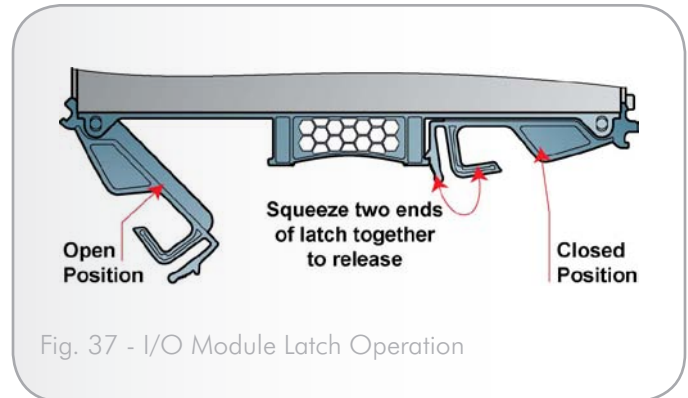
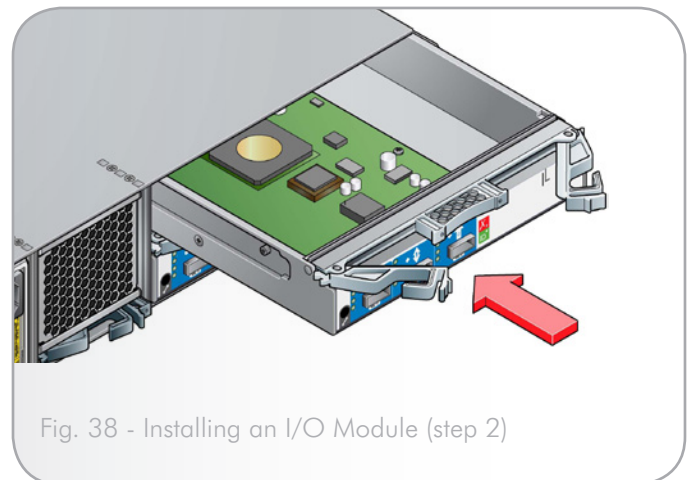

Fig. 37 - I/O Module Latch Operation
Fig. 38 - Installing an I/O Module (step 2)
2. Pull the latches outward to cam the module out of the enclosure (Fig. 37).
2. With the latches in the open position (see Fig. 37), slide the module into the enclosure until the latches engage automatically (Fig. 38).